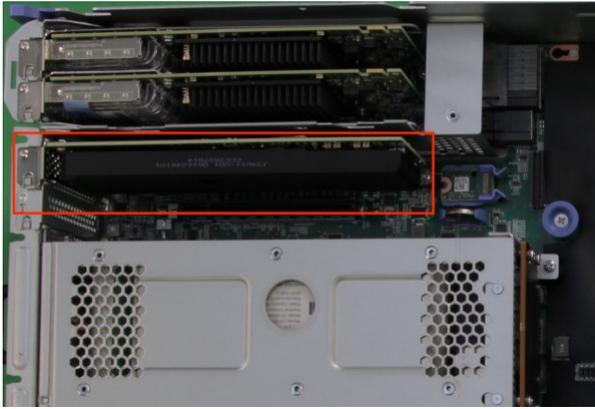

Figure 107. Locating the compression card
5. The compression card is located in adapter slot 3 located closest to adapter cage 1, as shown in Figure 107 on page 166